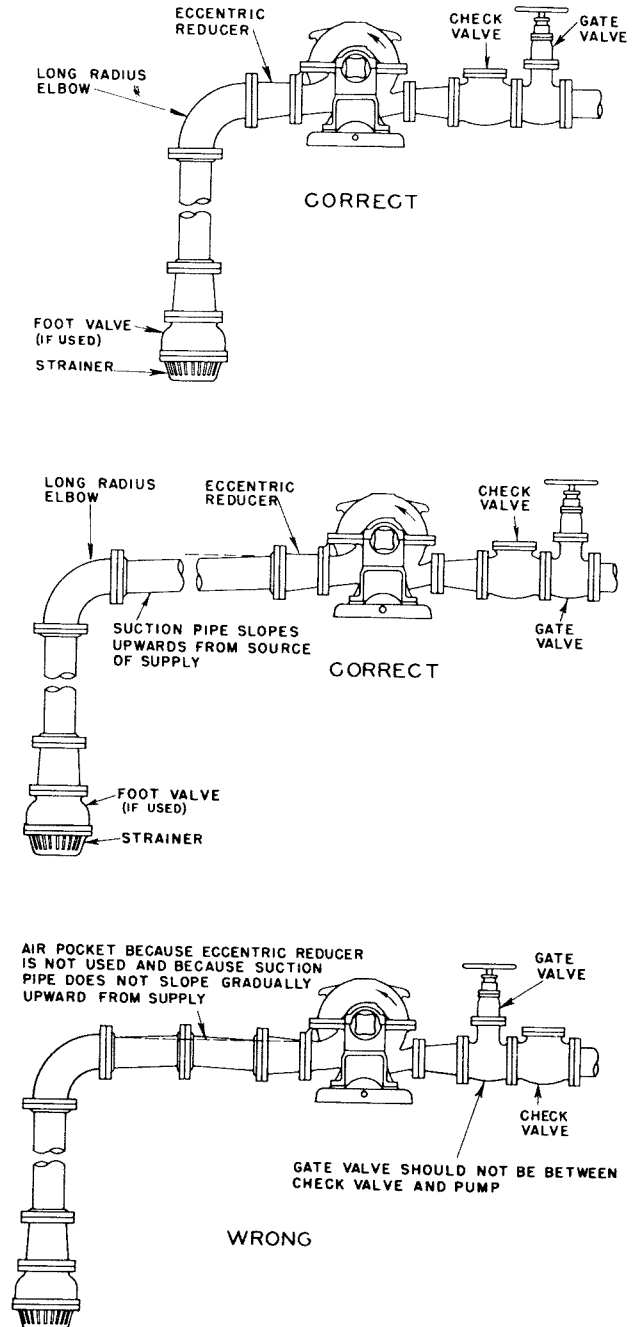

Figure 5
- (a) Keep suction pipe free from air pockets. See Fig. 5.
1. A gate valve and a check valve should be installed in the discharge line. The check valve should be located between the gate valve and pump to permit inspection of the check valve. The gate valve is required for priming, regulation of flow capacity and for inspection and maintenance of the pump. See Fig. 5.